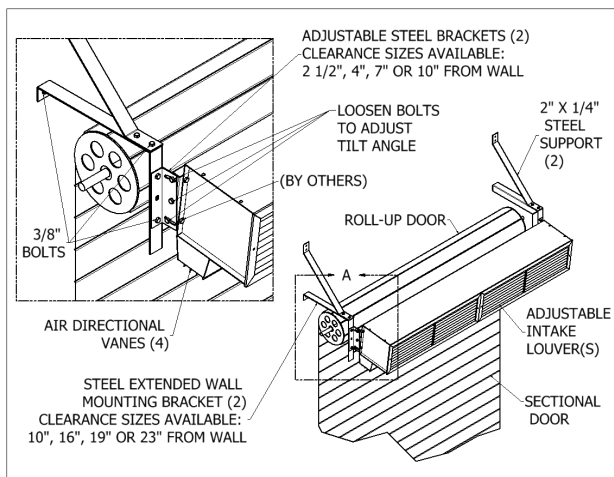

FIG. 6 (STD Shown)
installed per their supplemental instructions. (FIG. 6)
2. Adjustable Mounting Brackets: For installation of air curtain over drum-style roll-up door, use Extended Wall Mounting Brackets. (FIG. 6)